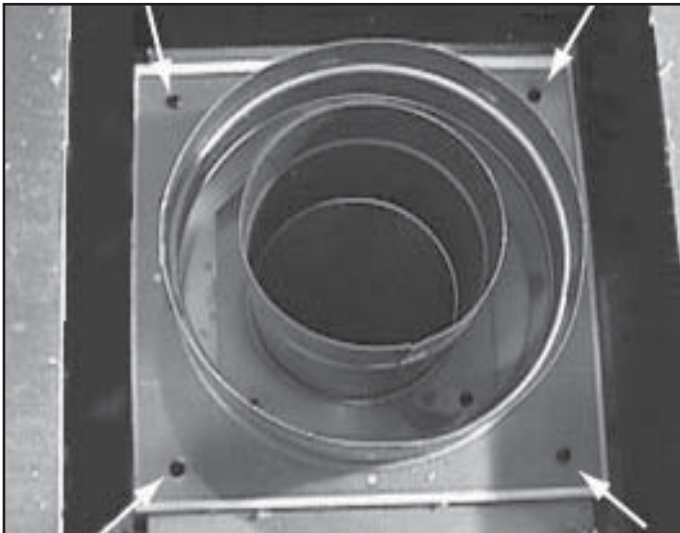

Figure 9.5 Outer Collar, Remove Four Screws
- Remove four screws holding outer collar to appliance top. See Figure 9.5. Remove outer collar.